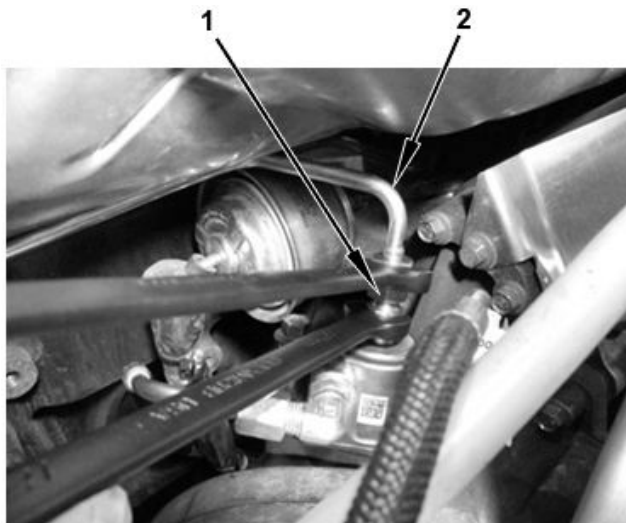

Figure 9. HCl Fuel Supply Line.
11. Remove and cap HCl fuel supply line (Figure 9, Item 2) and inlet nut (Figure 9, Item 1).